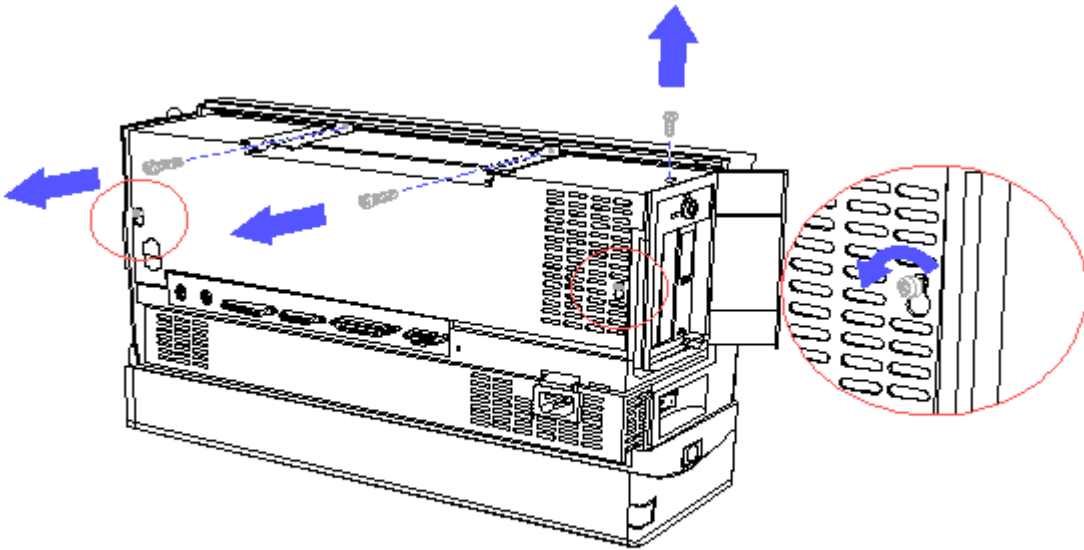

Figure 5-7. Removing the Options Cover Screws
2. Using a Torx T-15 screwdriver, remove three screws from the top of the options cover (Figure 5-7).